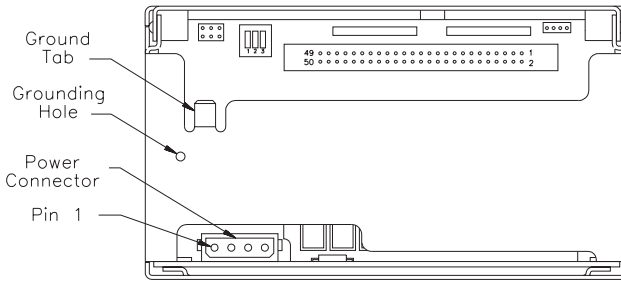

Figure 8 Location of grounding tab, grounding hole, and power connector
6. If you need additional chassis grounding, connect a grounding wire fitted with a $\frac{1}{4}$ -inch female spade connector to the ground tab on the back of the tape drive. Or, use an M3-0.5 6 mm self-tapping screw to connect the wire to the grounding hole. The ground tab and grounding hole are shown in Figure 8.